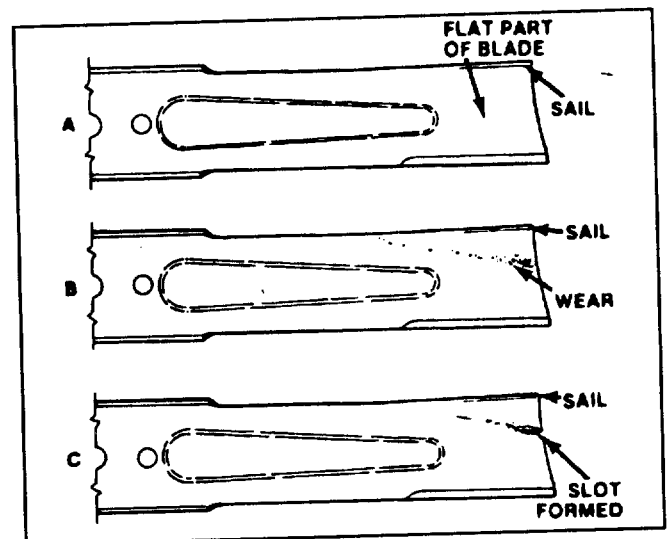

Figure 14
1. Examine cutting ends of the blade carefully, especially where the flat and curved parts of the blade meet (Fig. 14–A). Since sand and abrasive material can wear away the metal that connects the flat and curved parts of the blade, check the blade before using the mower. If wear is noticed (Fig. 14–B), replace the blade.
If blade is allowed to wear, a slot will form between the sail and flat part of the blade (Fig. 14-C). Eventually a piece of the blade may break off and be thrown from under the housing, possibly resulting in serious injury to yourself or bystander.